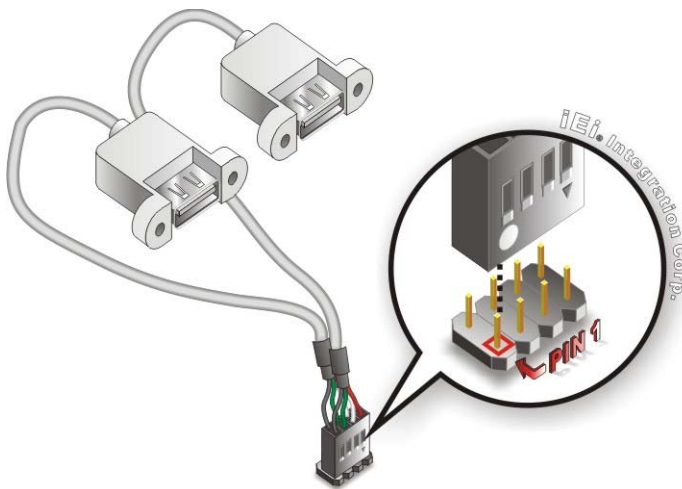

Figure 4-10: Dual USB Cable Connection
Step 3: Insert the cable connectors. Once the cable connectors are properly aligned with the USB connectors on the KINO-ABT-i2, connect the cable connectors to the on-board connectors. See Figure 4-10.